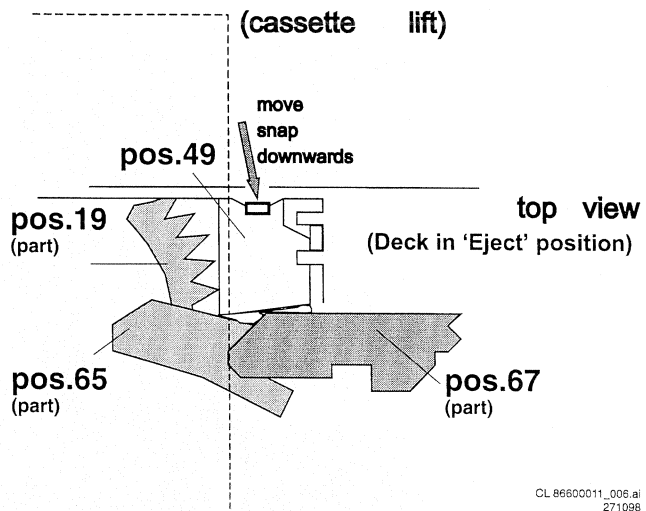

Figure 15
6.13 Transport disc pos. 33
- Remove belt pos. 3.
- Remove switching lever pos. 49 by releasing the snap as shown in figure 15.
- Remove play switch lever pos. 80.
- Remove standby switch lever pos. 79.
- Carefully move the arm of switch lever assy pos. 39 away from the transport disc.
- Remove intermediate wheel pos. 34.
- Cut the three snappers of the transport disc pos. 33 and take out the disc. Do not damage the post!